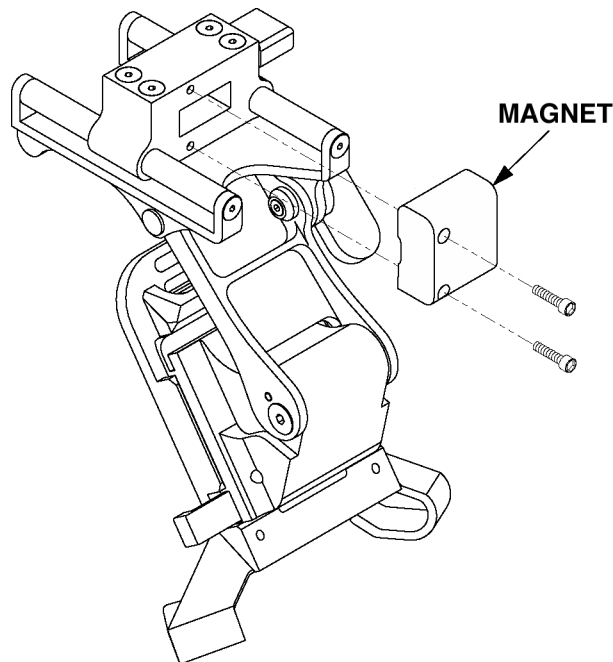

Figure 2-4. Magnet, Metal Helmet Mount.
- (1) Position the magnet by aligning with the holes in the metal helmet mount and insert the two screws (Figure 2-4).
- (2) Use the 5/64". hex wrench to tighten the two screws hand tight.